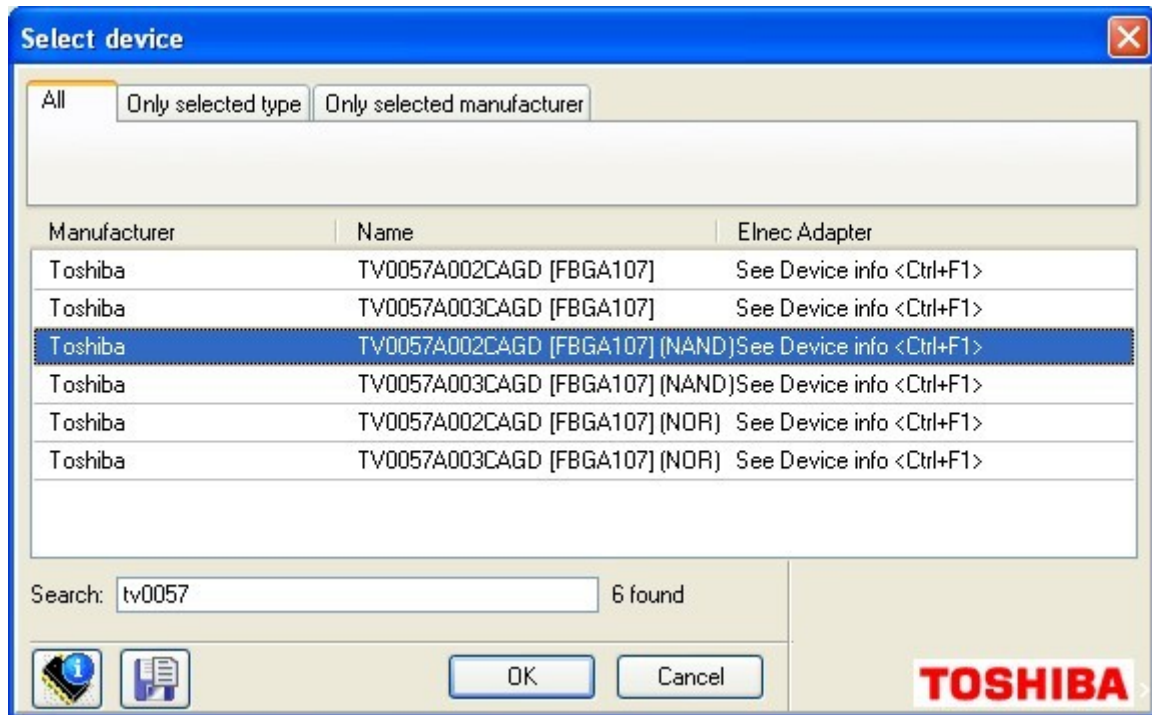

Figure 16: Selecting NAND part of multi-chip device
1. Firstly, display the Select device dialog window and list for the relevant Sub-device, i.e. for TV0057A002CAGD [FBGA107] (NAND) in this example (see Figure 16).